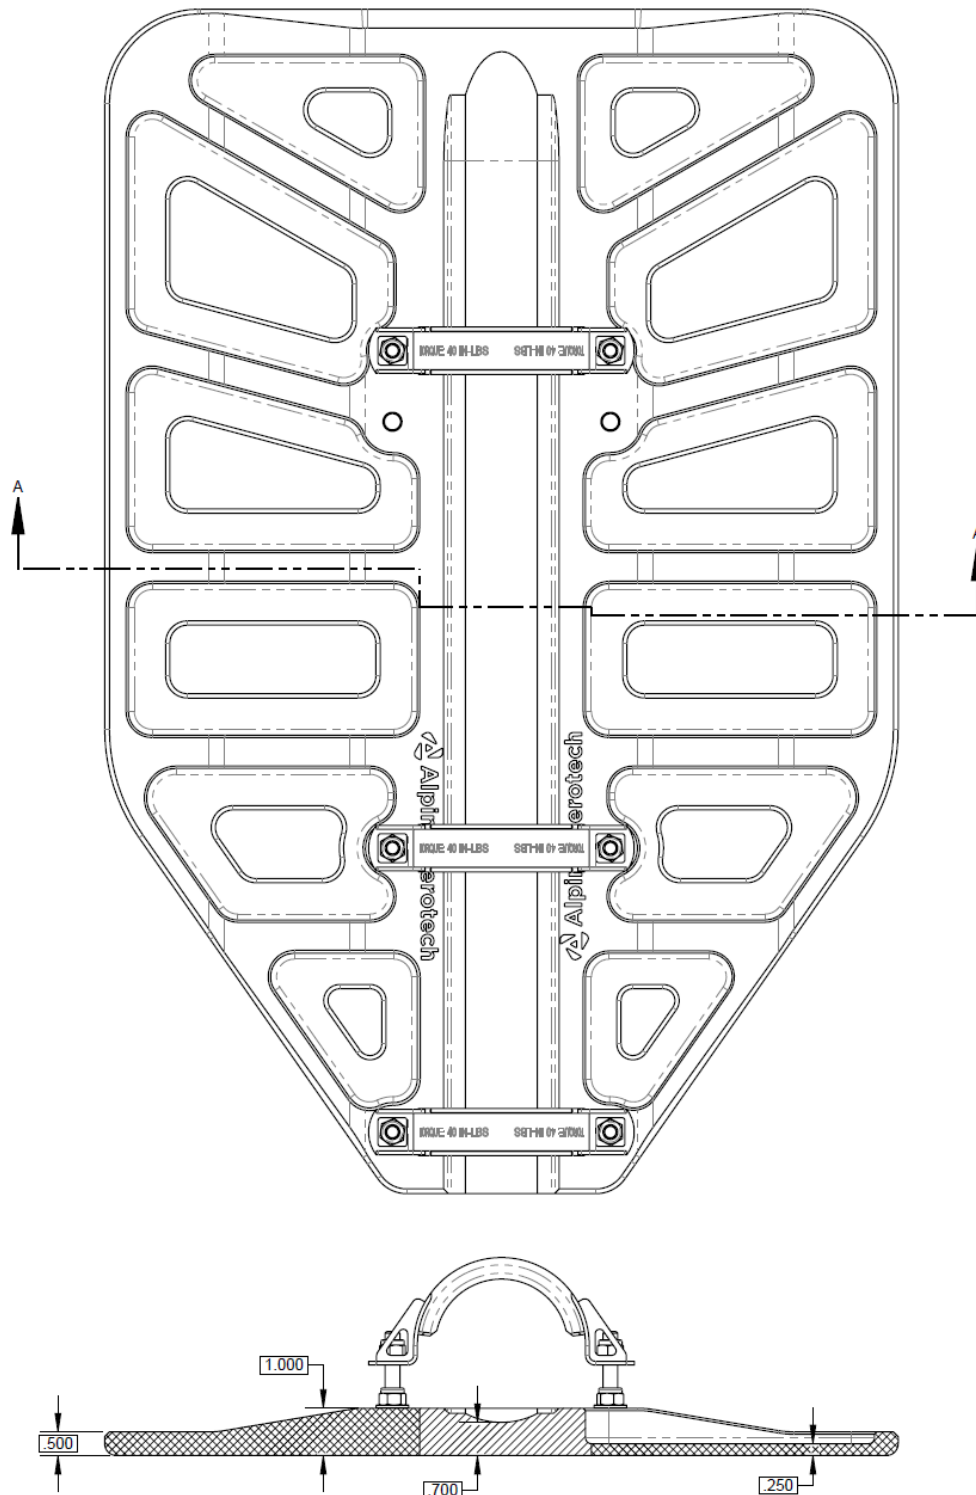

Figure 1
- v. In the shaded regions ,  of Figure 1 the Bear Paw may be worn to a maximum depth of 0.100 from the nominal dimensions shown.
- vi. In the shaded  region of Figure 1, it is acceptable to have damaged areas up to a maximum depth of 0.100 over a maximum area of 2 sq. in. Damage includes but not limited to deep scratches, gouges and deformed areas. Superficial surface scratches are permitted on all surfaces.
- viii. Cracks are acceptable in the shaded  portion of Figure 1 as long as they are restricted to the pockets of the bear paws, and do not exceed 0.50 long. Cracks that penetrate the stiffening ribs of the same area are unacceptable. Stop drill all cracks up to 0.50 long with $\varnothing 0.188$ drill.
- ix. Inspect item 7 Strap, Assy for damage to its respective components:
- a. Inspect item 7, Strap, Assy for cracks and hole elongation. If cracks are detected, or holes are elongated more than 0.025, replace the Strap, Assy (Item 8) immediately.